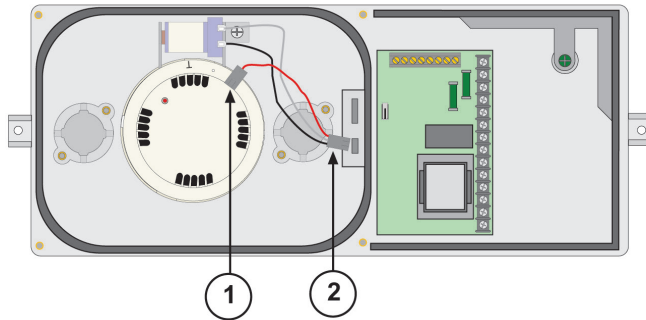

Figure 2.3: Wiring harness connection
5. Connect the wiring harness by attaching the connector with three wires to the smaller connector from the D340 Family housing's Power Card and attaching the connector with one wire to the connector located on the side of the detector head as shown in Figure 2.3: Wiring harness connection.